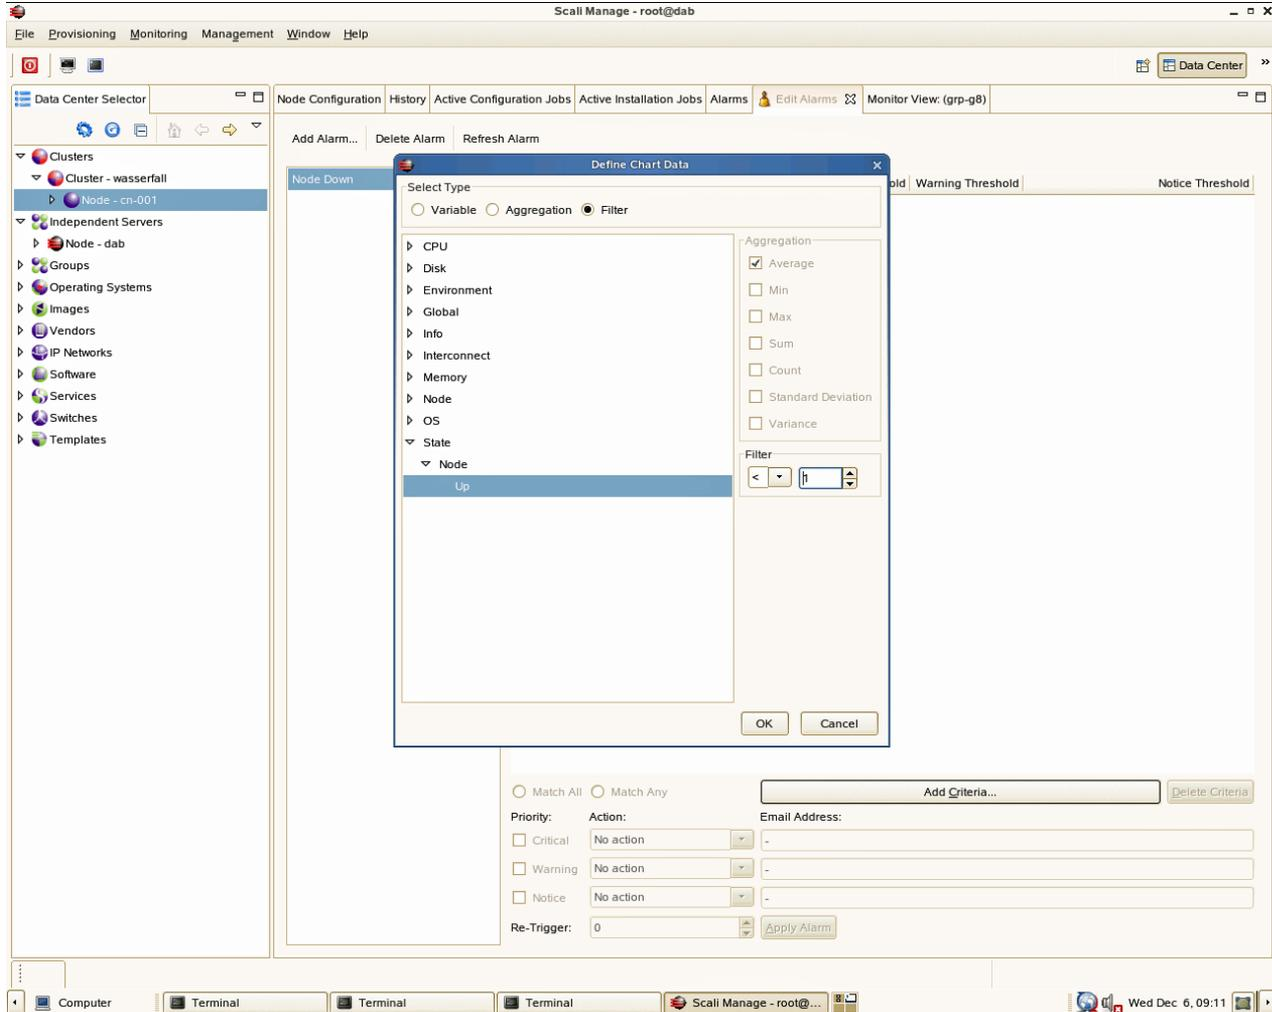

Figure 2-17 Define Chart Data Popup Example (Filter Selected)
- Another popup presents itself. For this example we picked a “Filter” criteria for the node status. Refer Figure 2-17.